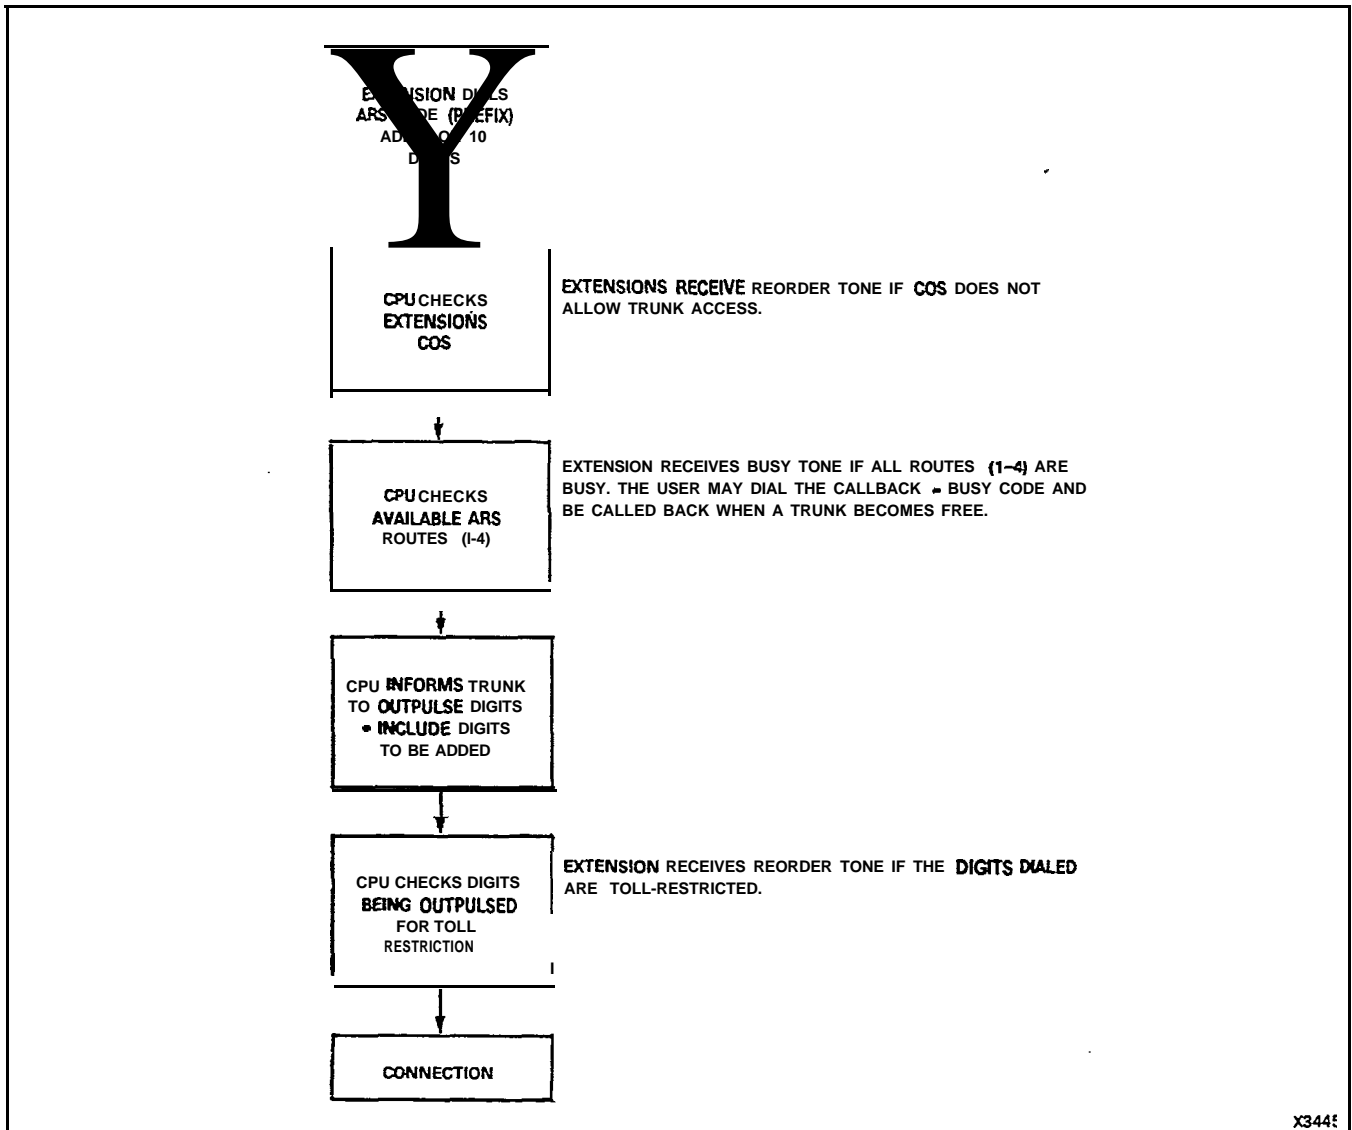

Figure 4-1 ARS Operation
4.01 The primary goal in the operation of ARS is to provide the most economical trunk to a user at a given hour of the day. At the same time, the ARS feature must retain a degree of simplicity that requires the user to dial only the ARS feature code, then normal digits (Figure 4-1).